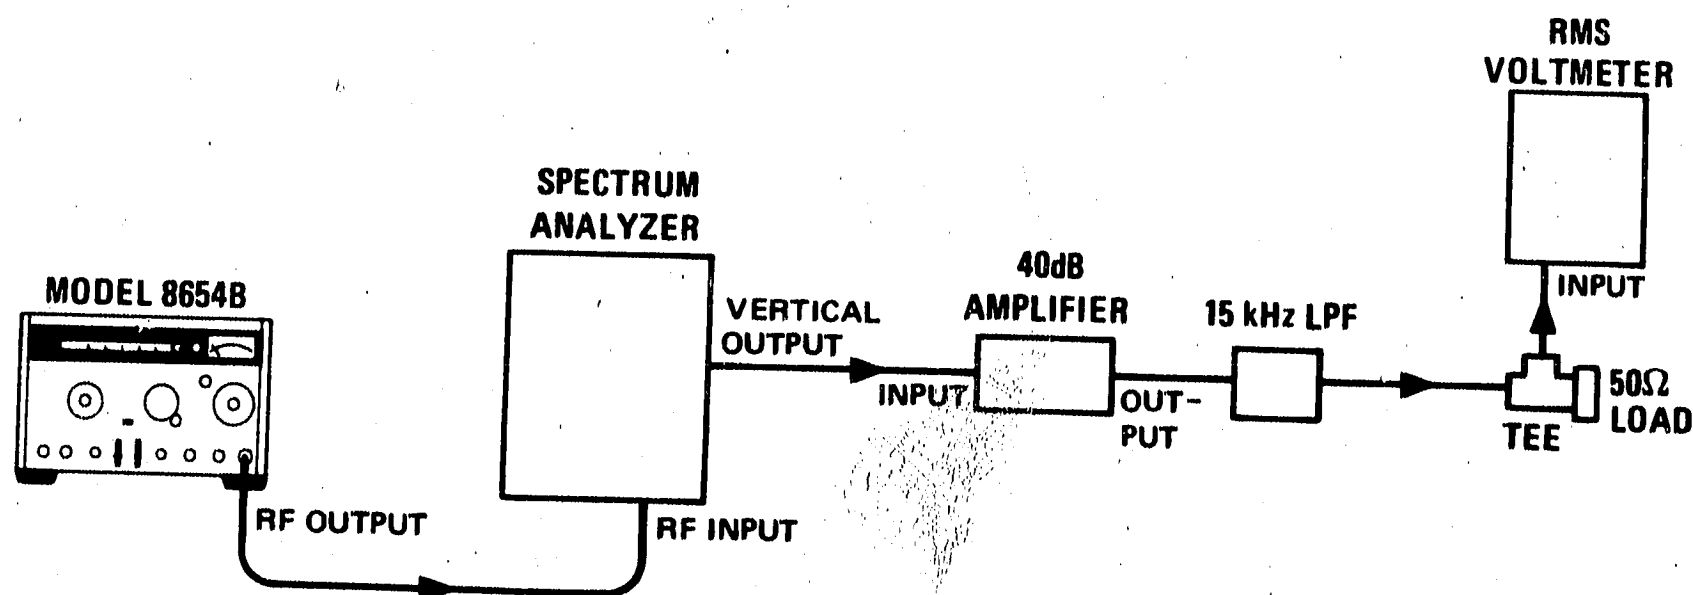

Figure 4-1. Residual AM Test Setup
1. Connect equipment as shown in Figure 4-1 after setting Signal Generator controls as follows: